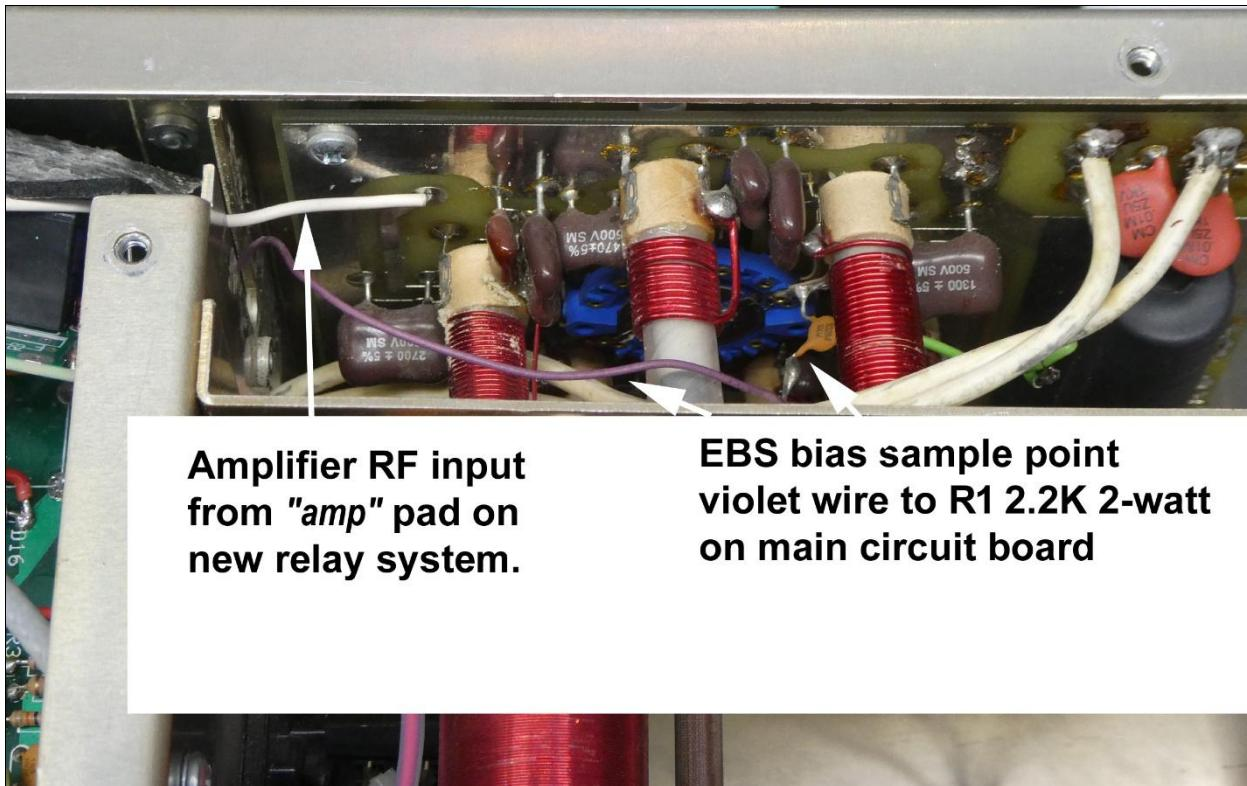

Figure 14 Tuned input connections (pre-existing from Ameritron)
- 3.) The violet wire (figure 14) to the tuned input board remains attached. If your amplifier does not have that violet bias trigger wire from the tuned input switch you will have to update it or somehow route TX RF to the bias detector circuit.
- 4.) Unsolder the small white wire end (figure 14) from the tuned input at the main board. It must remain attached to the tuned input board. Unsolder it, do not cut it.